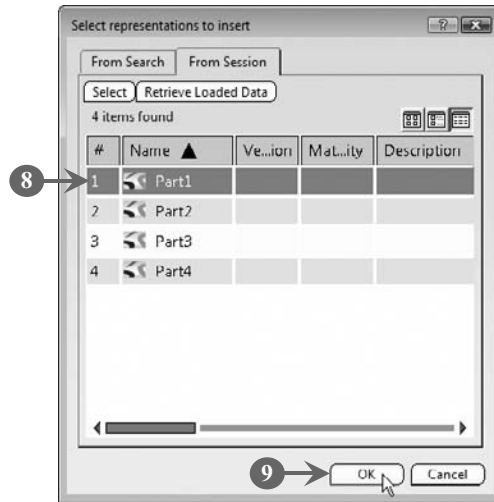

FIGURE 4.17
This displays all four components, **Part1**, **Part2**, **Part3**, and **Part4**, in the **Select representations to insert** dialog box (Figure 4.17).
8. Select the first component, **Part1** (Figure 4.17).
9. Click the **OK** button to close the **Select representations to insert** dialog box, as shown in Figure 4.17: